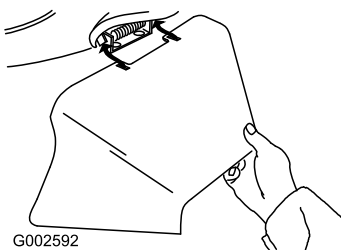

Figure 23
3. Install the side discharge chute and close the door onto the chute (Figure 23).